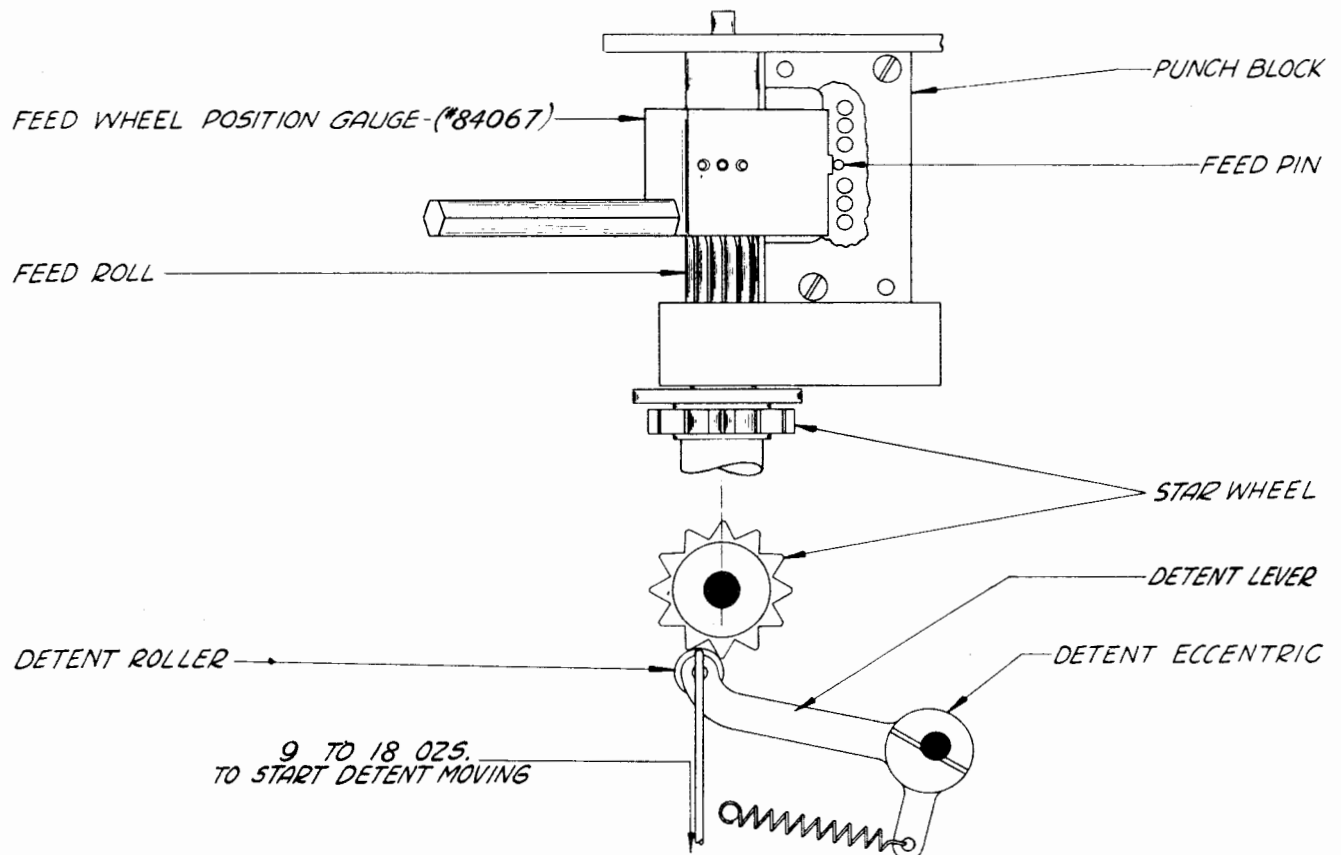

Figure 32
2.80 Tape-feed-roll Detent (Preliminary Adjustment): With the punch-hammer operating-lever roller on a high part of its cam, insert the feed-roll position gauge (TP84067) into the punch block so that the projection on the gauge stops against the punch-block feed pin. See Figure 32.
**2.85 Tape-feed-roll Detent-lever Spring:** Hook a scale over the detent lever at the center of the detent roller and pull vertically downward. It should require minimum 9 ounces, maximum 18 ounces, to start the roller moving away from the star wheel. See Figure 32.